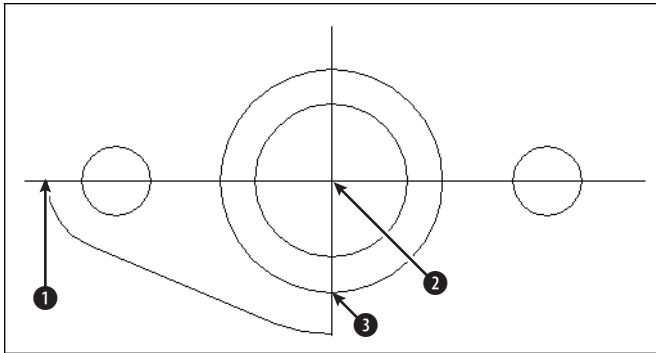

Figure 10-1: A partially completed mounting plate
3. Choose Erase on the Modify toolbar. At the *Select objects:* prompt, pick the line and two arcs to the bottom-right of the two centerlines and then press Enter. The resulting model should look like Figure 10-1.
5. At the *Specify first point of mirror line:* prompt, pick the intersection ① in Figure 10-1. At the *Specify second point of mirror line:* prompt, pick the intersection ②.